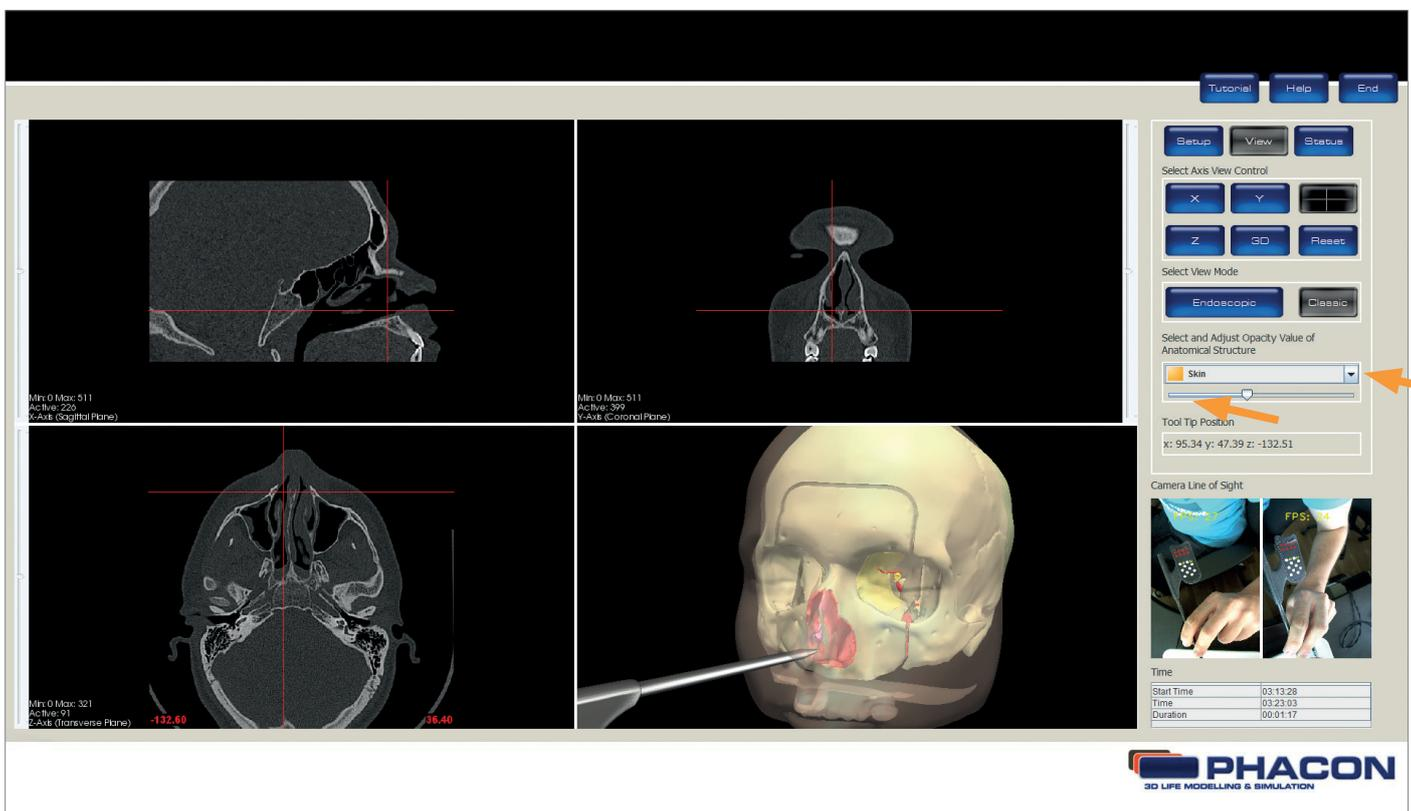

Fig.: 12
1. Click on the drop-down list and select the desired anatomical structure (*Fig.12*).